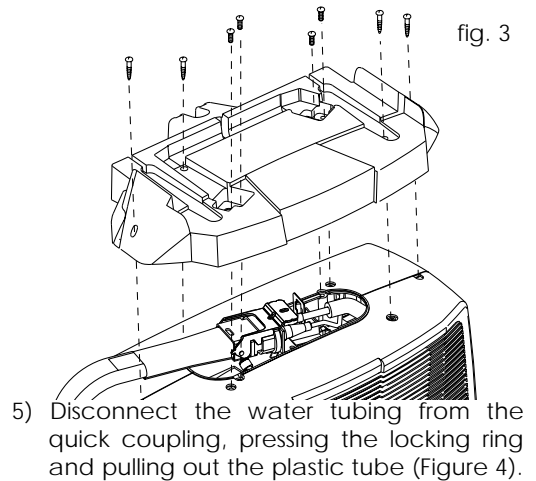

fig. 3
- 3) Remove the handle by unscrewing the 4 metric screws, then, to remove the cover, unscrew the remaining 4 self-threading screws (see Figure 3).